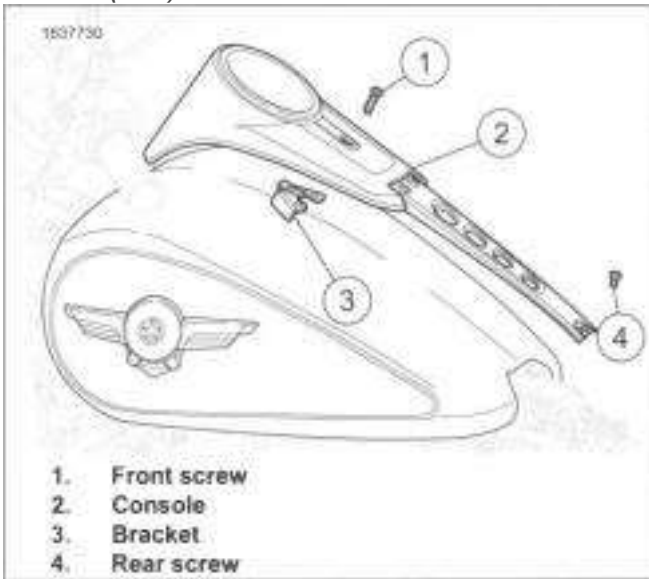
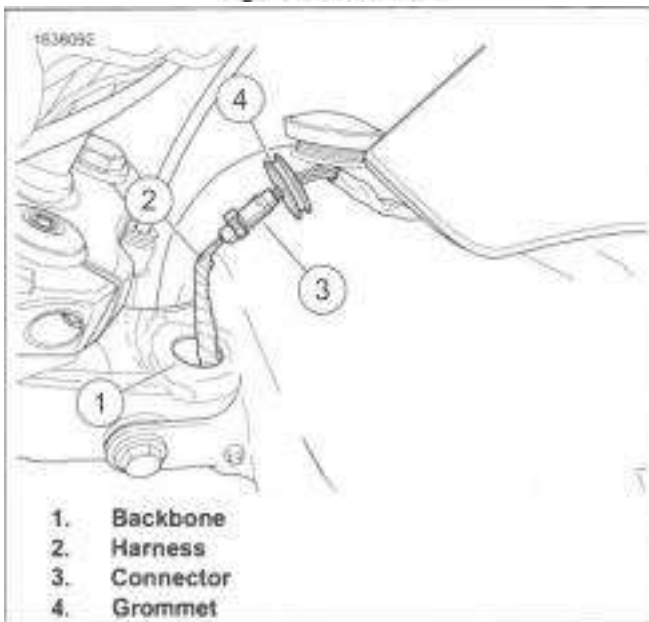

Figure 6-6. Console
Figure 6-7. Console Harness
1. See Figure 6-6. Detach console.
- a. Remove front screw (1).
- b. Remove rear screw (4)
- c. Move console (2) rearward.
2. See Figure 6-7. Disconnect connector.
- a. Remove grommet (4) from backbone (1).
- b. Pull harness (2) from backbone.
1. See Figure 6-7. Connect connector.
- a. Connect connector (3).
- b. Feed harness (2) into backbone (1).
- c. Position grommet (4) into backbone.
2. See Figure 6-6. Install console.
- a. Align console (2) with bracket (3).
- b. Install front screw (1).
- c. Install rear screw (4).